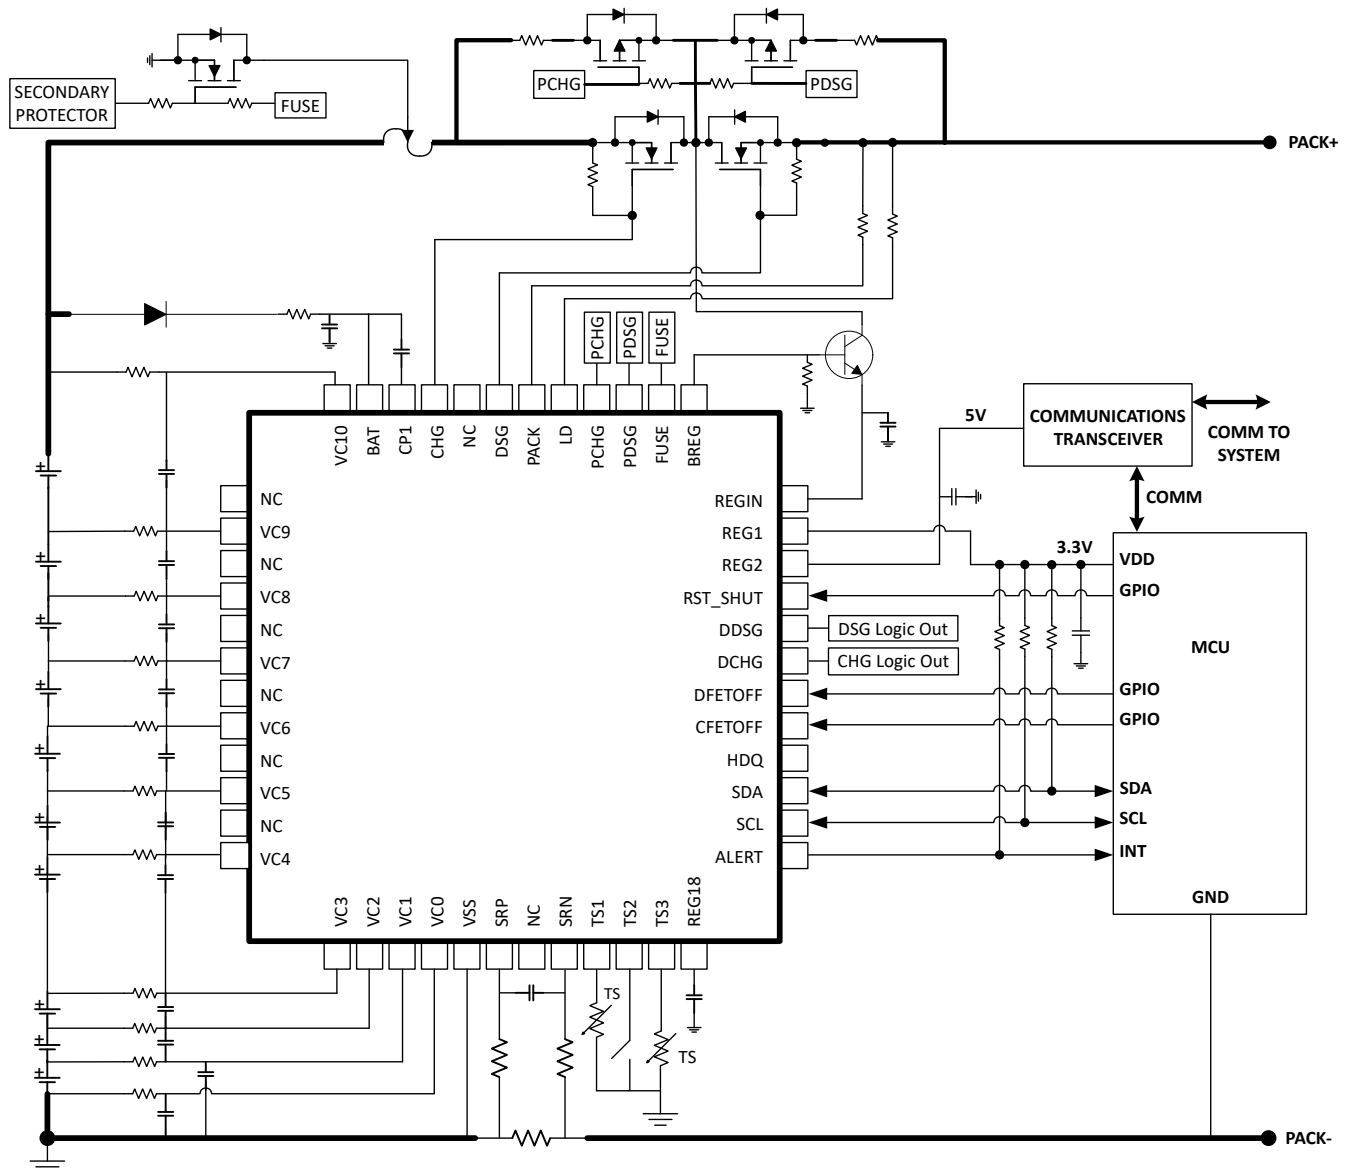

図 16-1. BQ76942 10-Series Cell Typical Implementation (Simplified Schematic)
- Power dissipation, which can be a factor of the RDS(ON) rating of the FET, the FET package, and the PCB design.
- The overdrive level of the BQ76942 device charge pump should be selected based on RDS(ON) requirements for the protection FETs and their voltage handling requirements. If the FETs are selected with a maximum gate-to-source voltage of 15 V, then the 11-V overdrive mode within the BQ76942 device can be used. If the FETs are not specified to withstand this level, or there is a concern over gate leakage current on the FETs, the lower overdrive level of 5.5 V can be selected.
- A diode can optionally be included in the collector circuit of the BJT, in order to avoid reverse current flow from BREG through the base-collector junction of the BJT to PACK+ during a pack short circuit event. This diode can be seen in Figure 16-1 at D2.